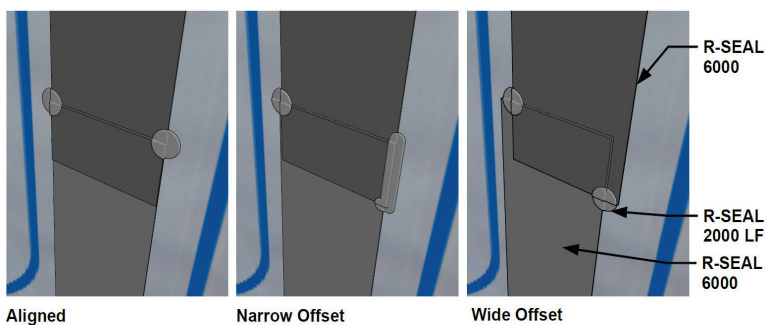

Figure 7
G. Lapping: When two layers of R-SEAL 6000 join at a horizontal or vertical application, overlap a minimum of 3" and apply R-SEAL 2000 LF or equivalent sealant along both edges where the overlap occurs. The sealant should extend radially beyond the pinholes potentially created by the overlap. **Reference Figure 7.**